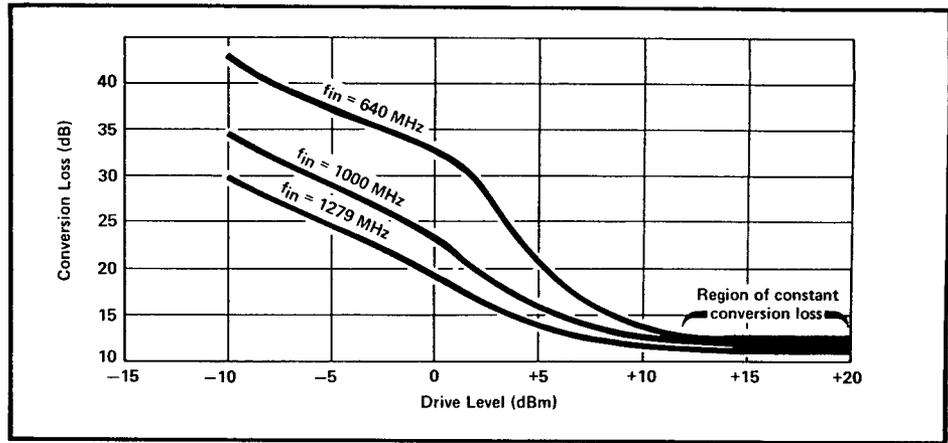

Figure 4. Typical 11721A conversion loss vs. drive level.
Much information can be gained from studying graphs relating conversion loss and drive level (Figure 4). Frequency doublers are generally specified for operation at input power levels in the range of constant conversion loss, shown at the right of the graph. Typically this dictates a minimum drive level of +10 dBm. In this range the full 8662A output resolution of 0.1 dB can be realized and the doubled output level is equal to the 8662A output level minus the doubler conversion loss. The absolute level accuracy is thus equal to the specified  $\pm 1$  dB 8662A level accuracy plus any uncertainty in the measured doubler conversion loss at the frequency of operation. In addition, an impedance mismatch between the 8662A output and the doubler input will result in a small uncertainty due to mismatch error. For the combination of the 8662A and 11721A, this error will typically be much less than 0.5 dB, and can be further reduced by inserting a 3 dB attenuator (HP 8491A Option 003) between the generator and doubler.
**Amplitude Modulation.** Frequency doubling has a major effect on AM performance. Since the doubler's output level is not a linear function of its input level (see Figure 4), changes in RF amplitude that constitute amplitude modulation at the doubler input are not faithfully reproduced at the output. However, if slightly increased AM distortion can be tolerated, the 8662A can be amplitude modulated at low depths. For example, at an output level of +13 dBm, modulating at depths less than 20% will typically result in less than 3% AM distortion. The level of incidental FM (FM caused by amplitude modulating) also rises rapidly with increasing modulation depth.